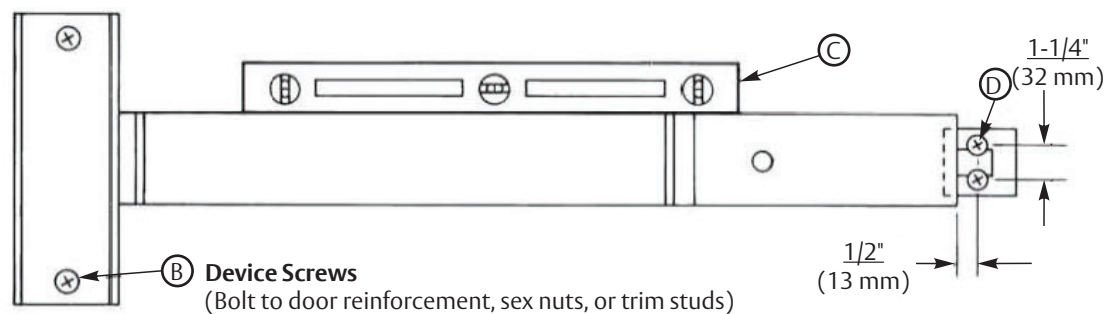

Figure 9
- B. Seat bar in place. Fasten device head (2 PRHMS or SNB). (Figure 9)